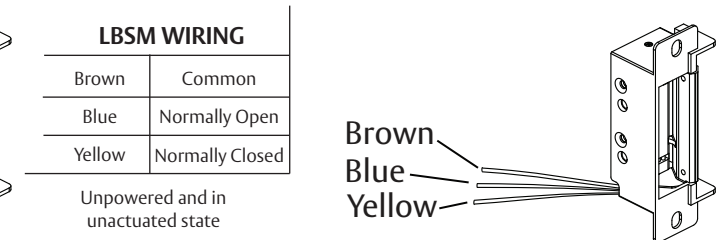

Figure 3: Strike Monitor
2. IF using a Latchbolt Monitor (LBM) or Latchbolt Strike Monitor (LBSM), THEN COMPLETE wiring in accordance with Figures 2, "Latchbolt Monitor," and Figure 3, "Strike Monitor," on Page 3.